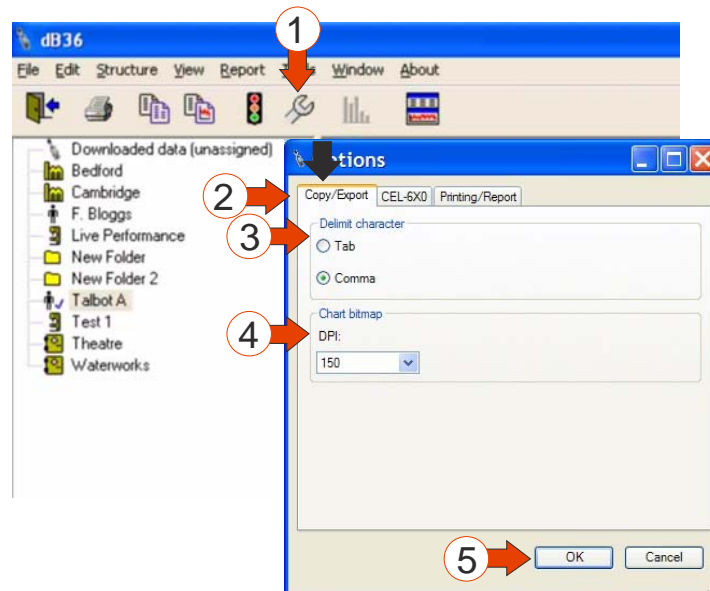

Figure 41 Copy/Export Options
A. COPY/EXPORT OPTIONS (Refer to Figure 41)